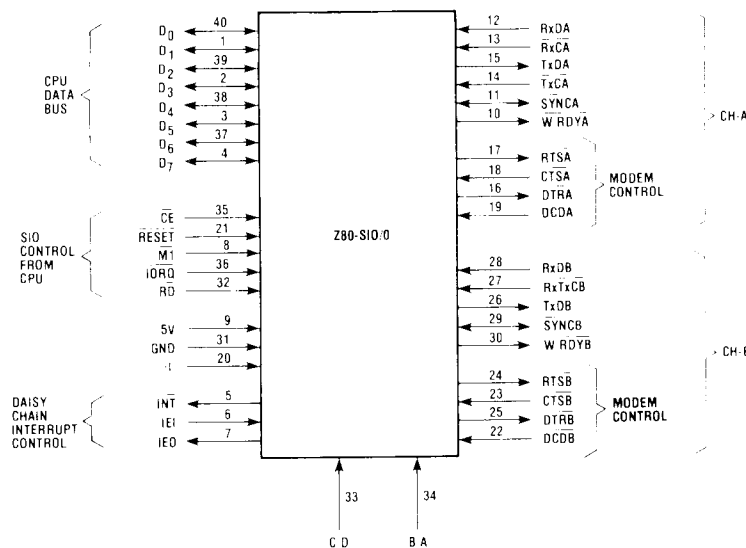

Figure 1. Z80-SIO/0 Pin Configuration
- Z80-SIO/0 has all four signals, but  $\overline{\text{TxCB}}$  and  $\overline{\text{RxCB}}$  are bonded together (Fig. 1).